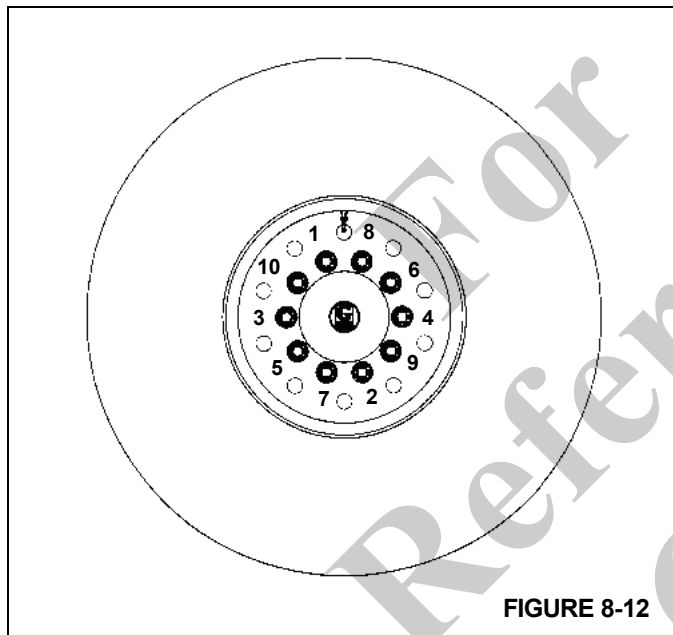

FIGURE 8-12
6. Tighten the lug nuts in the sequence shown to a preliminary torque of 68 Nm (50 lb-ft) (see Figure 8-12).
7. Keep tightening the lug nuts in the sequence shown until all 10 are torqued to 610 to 678 Nm (450 to 500 lb-ft) (see Figure 8-12).